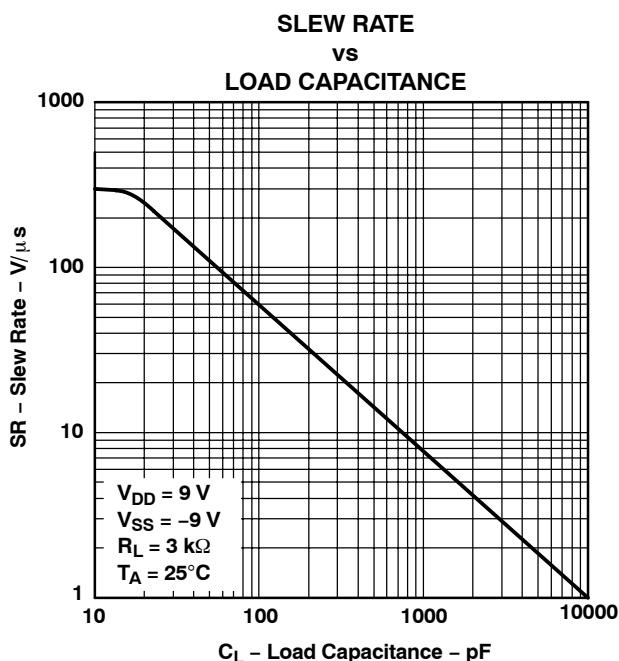

Figure 10.
(1) See Figure 10 to select the correct values for the loading capacitors (C1, C2, and C3), which are required to meet the RS-232 maximum slew-rate requirement of 30 V/μs. The value of the loading capacitors required depends on the line length and desired slew rate, but typically is 330 pF.